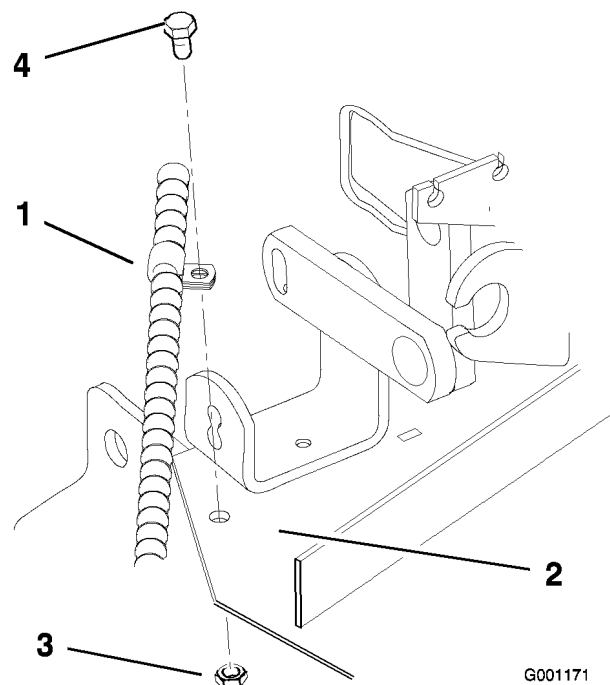

Figure 7
4. For 48 inch mowers, install the small R-clamp to the mower deck with a bolt (5/16 x 3/4 inch) and locknut (5/16 inch) using the existing hole in the right rear top of the deck (Figure 7).
Install the decal over the existing decal (Figure 7).